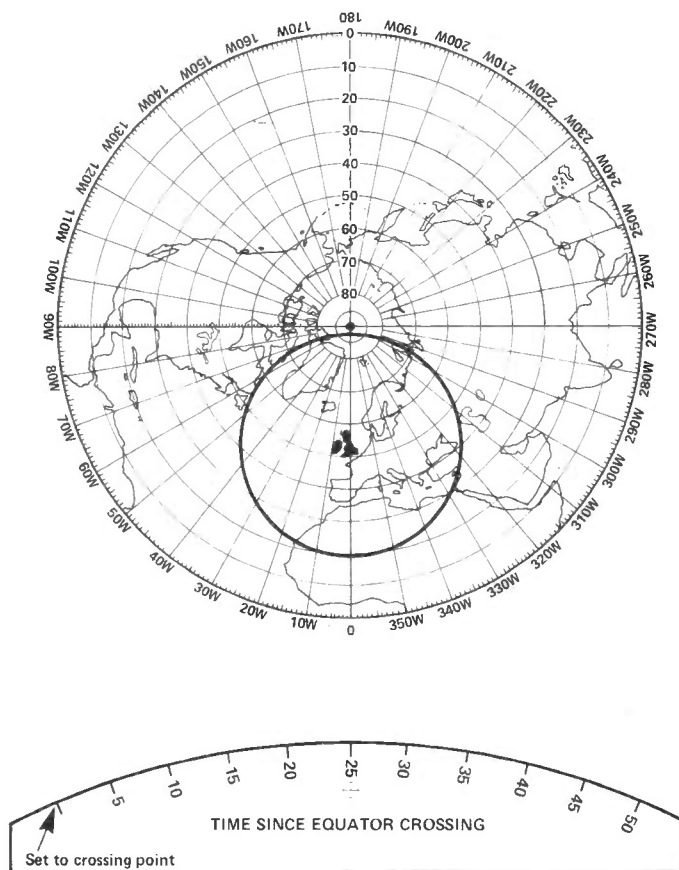

Figure 1: Satellite finder (drawn to scale). The lower curved rule is fixed over the centre of the map and rotates to give satellite positions.
The other piece of equipment required is the satellite finder depicted in Fig. 1. This consists of a Polar Projection map of the northern hemisphere together with a cursor showing the path of a satellite. If the figure is mounted on thin card, cut out and pinned together with a paper fastener it will enable the user to find the satellite at any instant in its orbit.
**Figure 1: The Antiference INTERCEPTOR MH308 array. This is a combined Band I/III aerial mounted on a single boom. It consists of a 3-element Band I array comprising a folded dipole, reflector and director. The 8-element Band III section comprises a folded dipole, reflector, four directors and two resonators. The MH311 version has three extra Band II directors giving improved gain and directivity.**